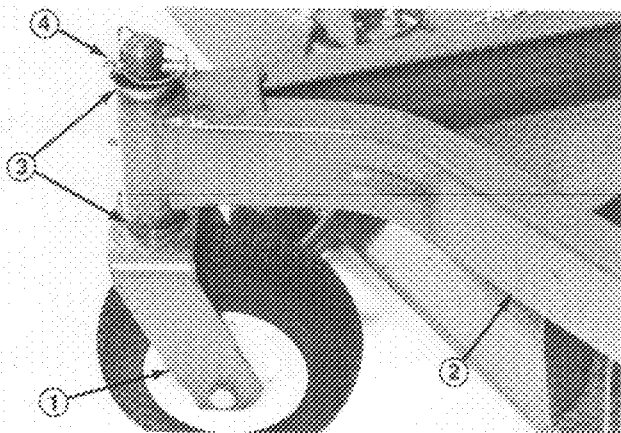

Figure 1
1. Remove Lynch Pins and two thrust washers from each castor wheel assembly. Leave two thrust washers on each shaft, insert shafts into frame, install thrust washers and Lynch pins (Fig. 1).